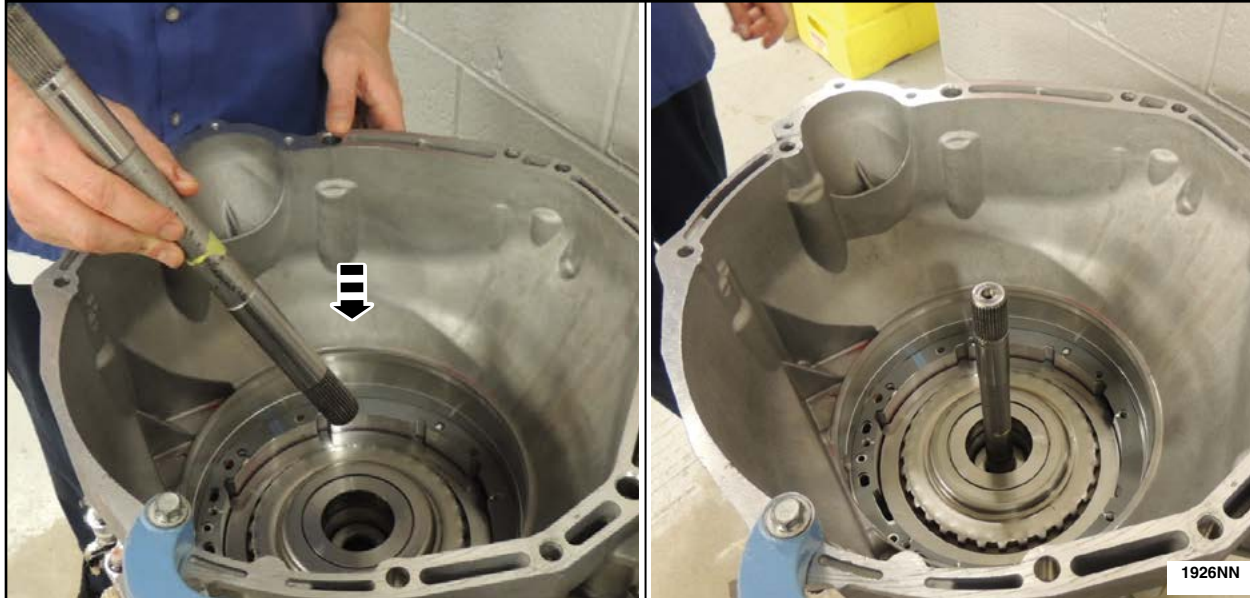

FIGURE 39
36. Install the input shaft into the case. See Figure 39.